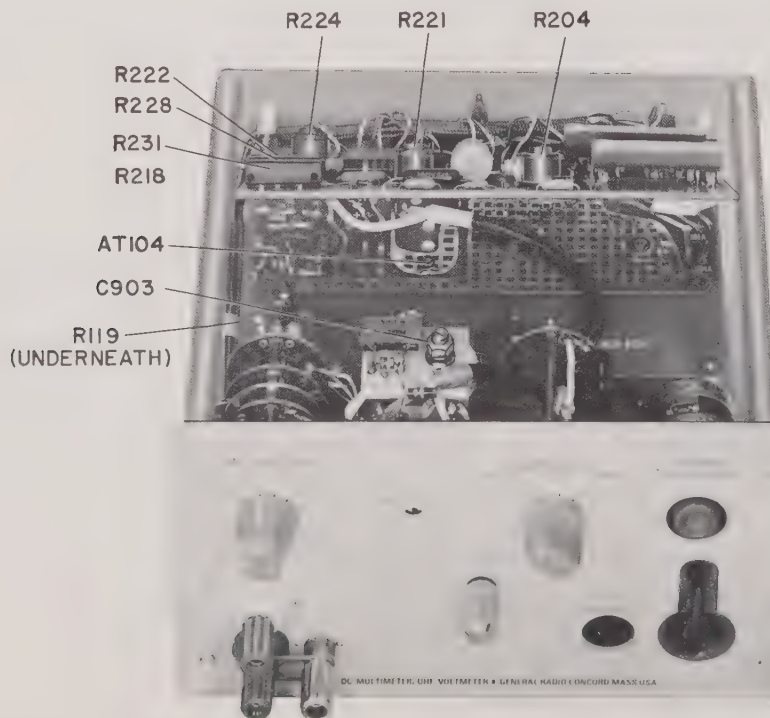

Figure 4-2. Interior view showing test points and secondary controls.
To obtain access to the components of the Type 1820-P1 while it is in operation, remove the cover of the Type 1820 Digital Voltmeter mainframe according to the directions given in Section 2 of its instruction manual. Figure 4-2 shows the location of anchor terminals, test points, and adjustable components.
To lift the boards up as shown in Figure 4-2, remove the two front corner screws from the top board and tip it up, then remove the four corner screws from the lower board and tip it up as far as possible, being careful not to break any of the connected wires. It is usually necessary to tip up only the top board. Access to the lower board should be made only with the POWER OFF.
4.5.2 GENERAL PROCEDURE (Figure 4-2).
4.6.1 AMPLIFIER CIRCUITS (Figure 4-2).